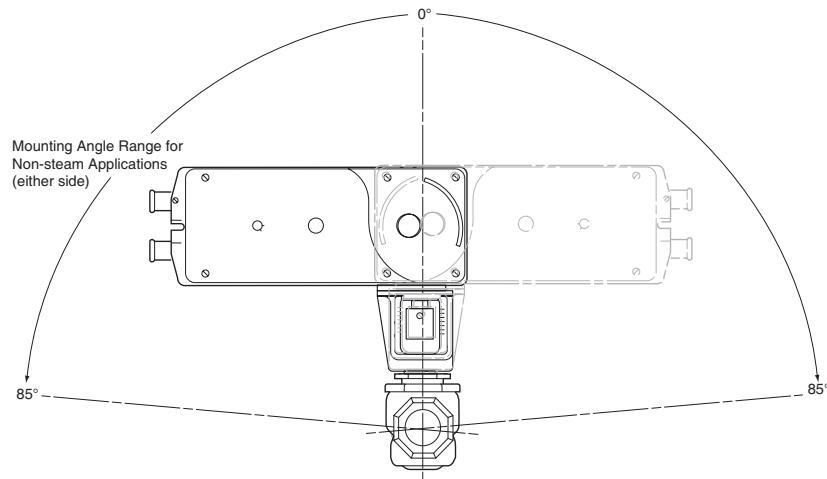
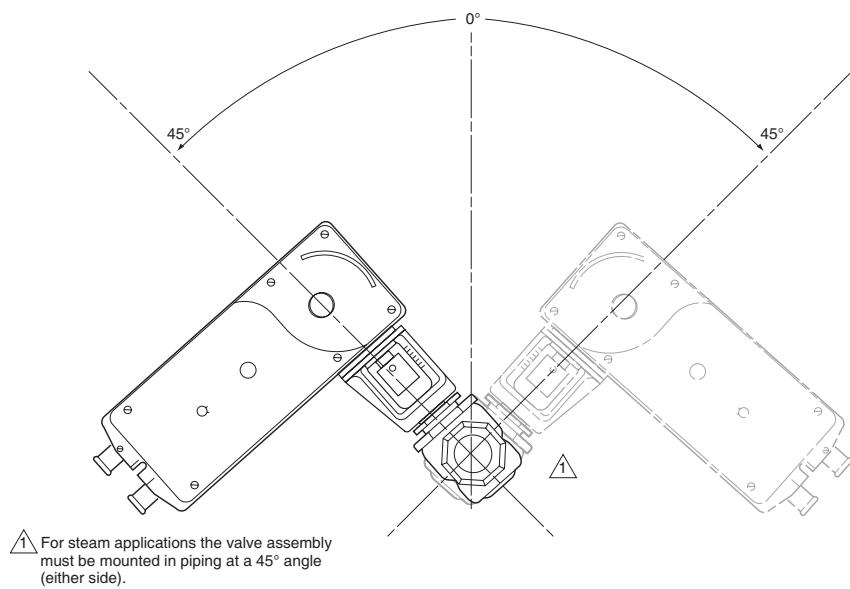
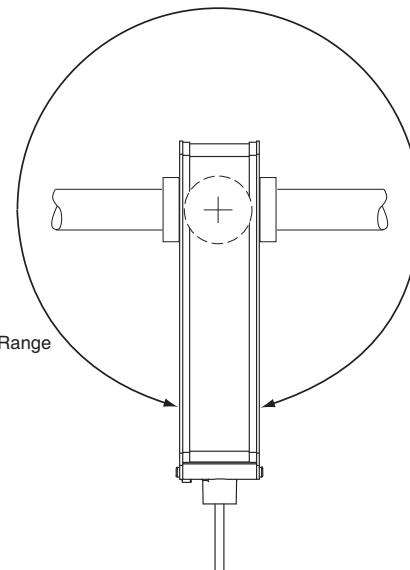

Figure 15 Typical Mounting Position.
Figure 16 Typical Mounting Position for Steam Applications
Figure 17 Typical Mounting Position for Steam Applications
- The actuator must be mounted above the centerline of the valve body. This will minimize the risk of damage to the actuator in the event of condensation. Refer to Figure 15, Figure 16, and Figure 17.
The valve should be mounted in a weather-protected area, in a location that is within the ambient temperature limits of the actuator. The installation of the actuator assembly should provide clearance on all sides to allow for any maintenance that may be needed (see Figure 15 and Figure 17). Install the valve according to the instructions in the appropriate valve body General Instructions sheet (see Applicable Literature).
- On non-steam applications the globe valve assembly must be mounted so that the actuator is at least 5° above the horizontal (Figure 15) to ensure that any condensate that forms will not travel into the mounting bracket or actuator.
- On steam applications, the globe valve assembly must be mounted at 45° from vertical. (Figure 16).